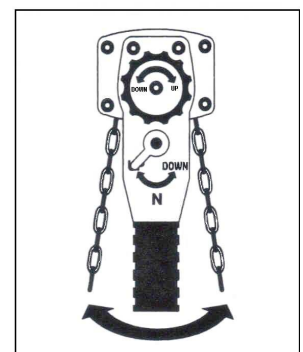
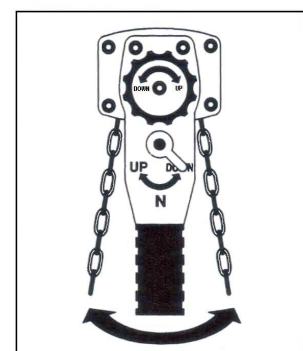

FIGURE 5
FIGURE 6
- ② Set change lever in desired direction, UP or DOWN, and operate handle back and forth to move load in proper directions. (Fig. 5 & Fig. 6)